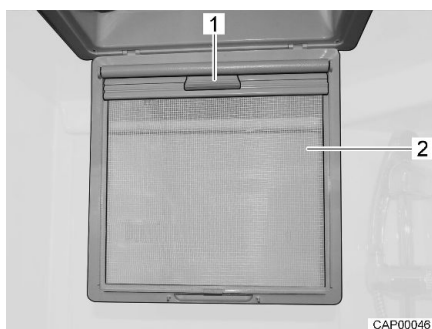

Fig. 32 Blind
- Fold insect screen (Fig. 32,2) downward.
- Pull blind down by the handle (Fig. 32,1) until it engages on the opposite side.
- Release blind at the handle (Fig. 32,1) and return it slowly to its initial position.
- Swing insect screen (Fig. 32,2) upwards until it latches in place.